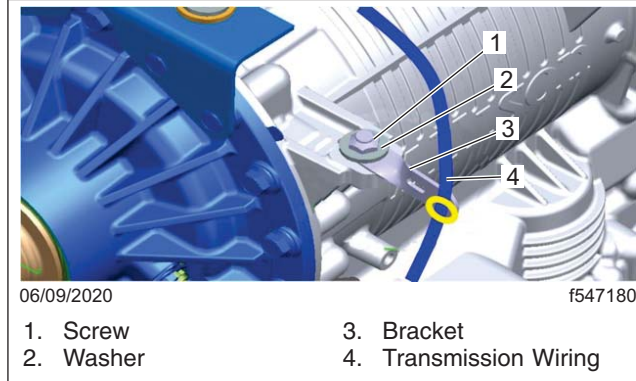

Fig. 7, Transmission Wiring Harness Routing
2. Install the bracket (23-09130-011), nut (23-13833-108), washer (23-09114-000) and the bolt (23-09440-150) on the right-side of the transmission to route the harness coming down from the coolant DEF lines. Use the fir tree tie strap (23-13482-003) to clip the transmission harness to the bracket. See Fig. 7.